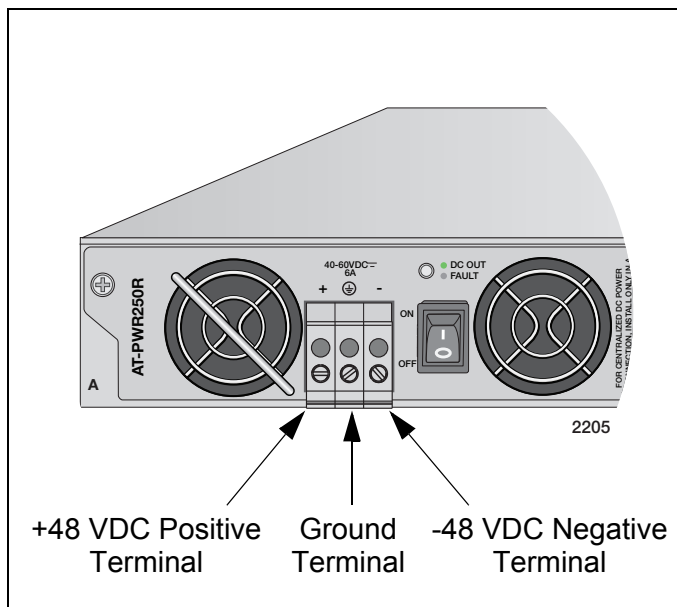

Figure 33. DC Terminal Block on the DC AT-PWR250R-80 Power Supply Module
3. Use the legend above the terminal block to identify the terminals. The terminals are **positive**, **power supply ground** and **negative**, from left to right, as shown in Figure 33 on page 74.